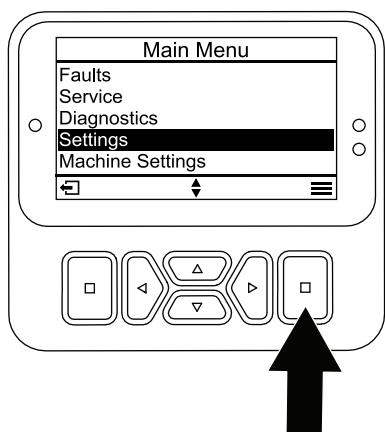

Figure 21
1. From the MAIN MENU, scroll down to the SETTINGS menu and press the select button (Figure 21).